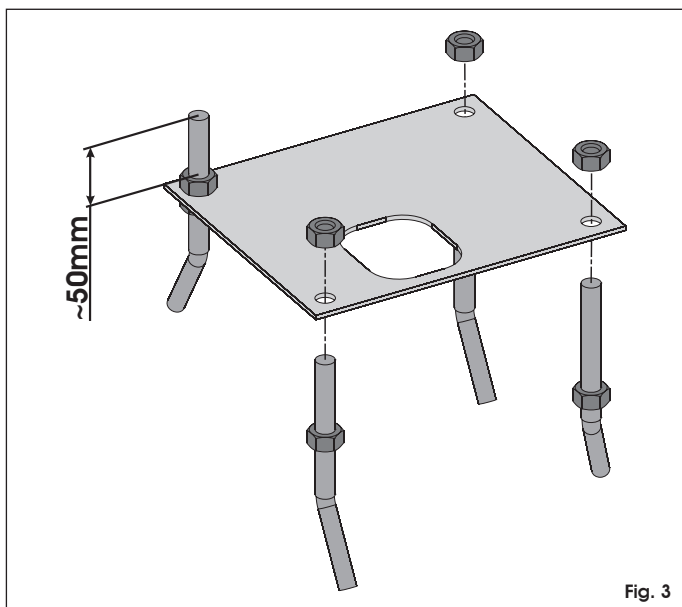

Fig. 3
- Assemble the foundation plate as in Fig.3.